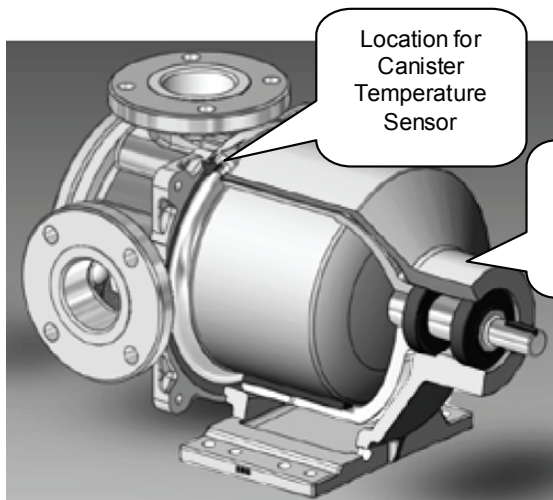

Figure 3.1 – Optional Sensor Locations
- **Bearing Vibration:** The pump shaft is supported by rolling-element bearings. The condition of the bearings can be monitored with a vibration sensor attached to the magnet housing near the bearings. See Figure 3.1.